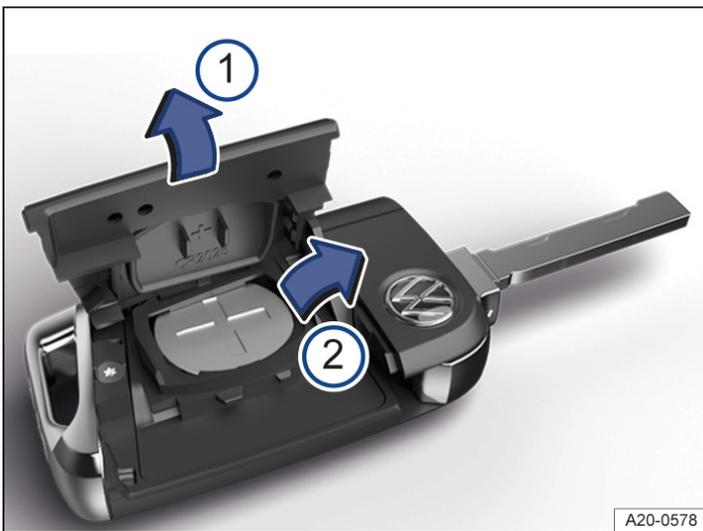

Fig. 1 Vehicle key: replacing the button cell (illustration).
- ① Cover.
- ② Button cell.
2. Lever off the cover → Fig. 1 ① → ⓘ.
3. Lever the button cell out of the battery compartment → Fig. 1 ②.
5. Press the cover onto the housing → Fig. 1 ①.